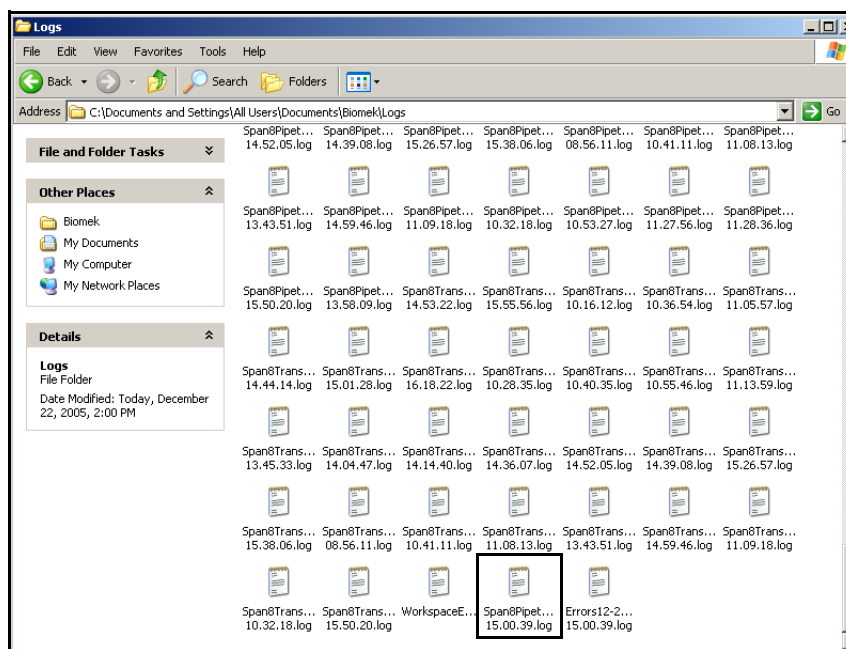

Figure 7-15. Browse to Logs
1. Browse to **C:\Documents and Settings\All Users\Documents\Biomek\Logs** (Figure 7-15).